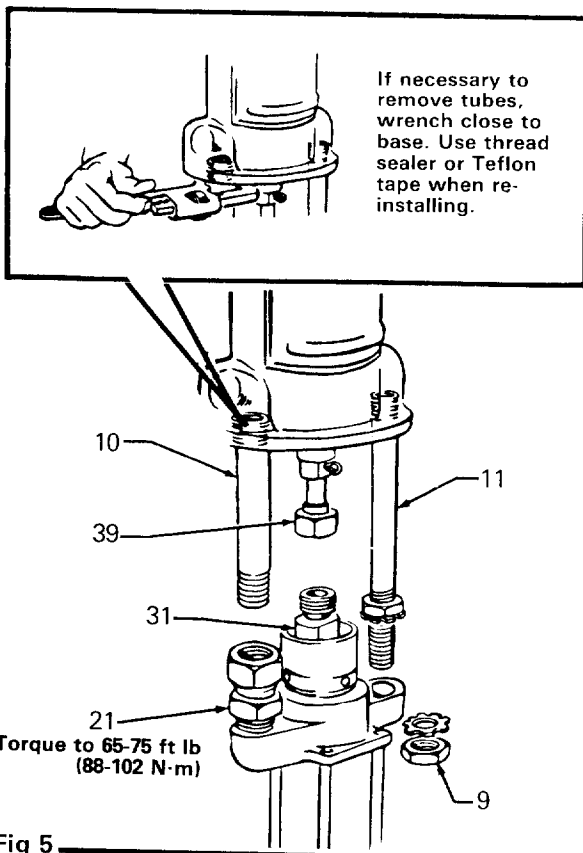

Fig 5
Unscrew coupling nut (39) from displacement rod plunger (31). Unscrew lower locknut (9) from return mounting tube (11) and swivel union (21) from supply mounting tube (10). See Fig 5. If mounting tubes are to be removed, wrench tubes close to air motor base to prevent thread damage in base.
Place fluid pump on mounting tubes. Thread upper lock nut (9) onto return mounting tube (11) a couple turns and tighten swivel union (21) onto supply mounting tube (10). Refer to Fig 5. Butt coupling nut (39) and displacement plunger (31) together and adjust lock nuts on return mounting tube to align rod and plunger. Then tighten lock nuts securely, being careful not to disturb alignment. Tighten coupling nut securely onto plunger. See Parts Drawing on page 6 for torque specifications.
Operate pump at minimum of air pressure: 50 PSI (3.5 bar) maximum. Adjust locknuts on return mounting tube as necessary until pump operates smoothly on 15 PSI (1 bar) or less. Tighten nuts securely. See Fig 5.